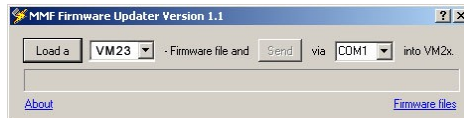

Figure 30: Firmware Updater software
4. Start the “Firmware Updater” (Figure 30), then select the instrument type “VM23” and set up the virtual COM port assigned by the PC. If you are not sure which of the available COM ports is correct, you can check in the Windows system control manager located within the instrument manager.